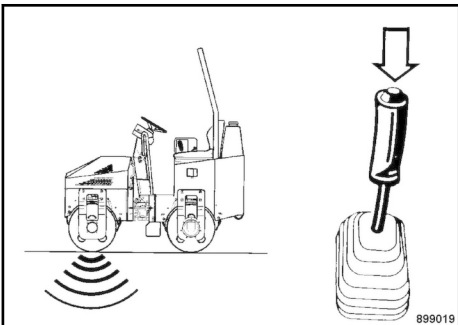

Fig. 119
4. Switch the vibration on ↪ Fig. 119.